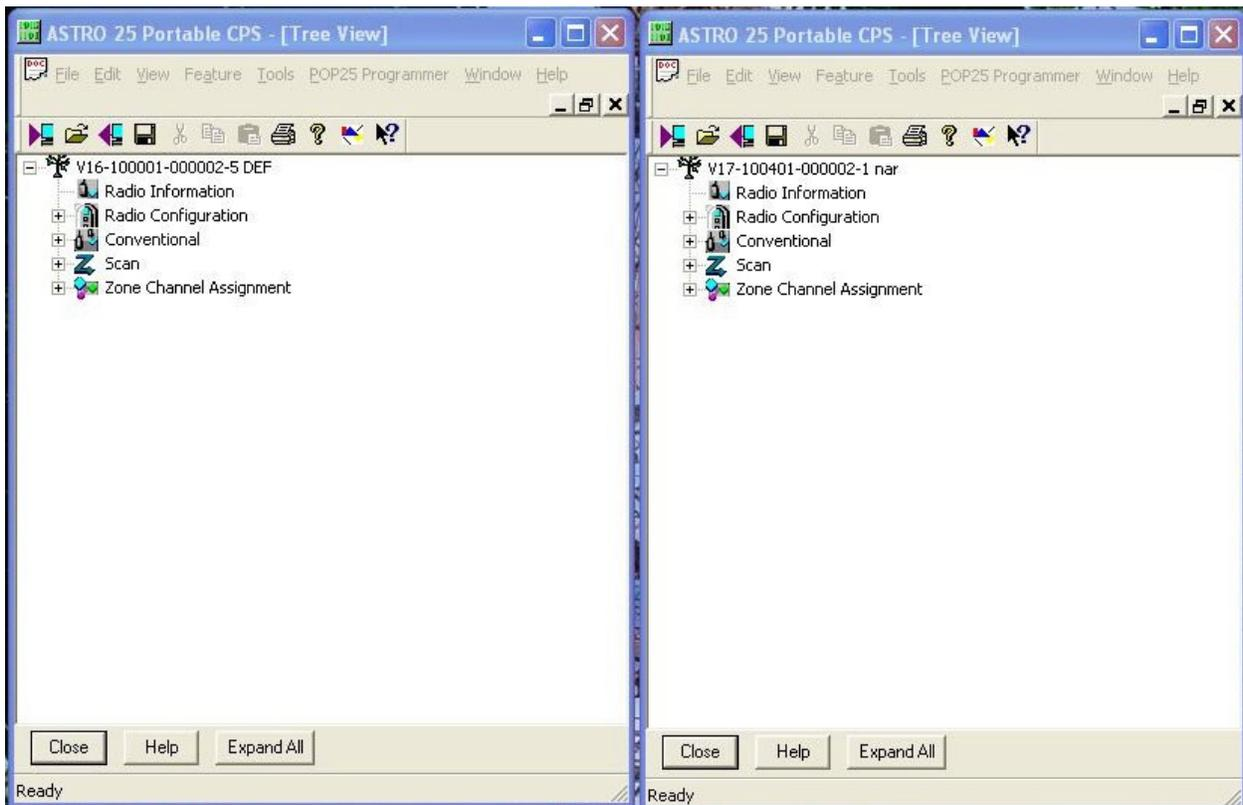

FIGURE 1: Original codeplug “Tree View” on left and new “Narrow Band” on the right
1) Start CPS and open a copy of the existing codeplug file to be converted. Minimize the CPS window so that it covers half the left screen. Then start a second instance of CPS. Use the second instance of CPS to read the codeplug from the target narrow band radio. Minimize the second CPS so that both tree views can be seen of the computer monitor side by side with the second CPS on the right side. See Figure 1.